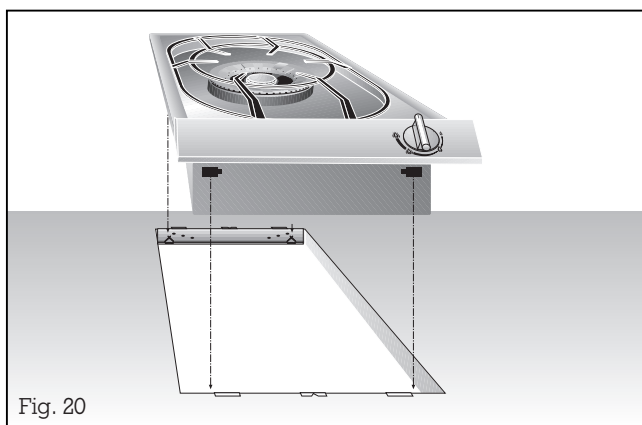

Fig. 20
- **Lower the appliance into the worktop.** Make sure that the engaging lugs on the appliance lie exactly on the clamping springs. Press the appliance firmly into the worktop. The engaging lugs on the appliance “snap” into the clamping springs (Fig. 20).